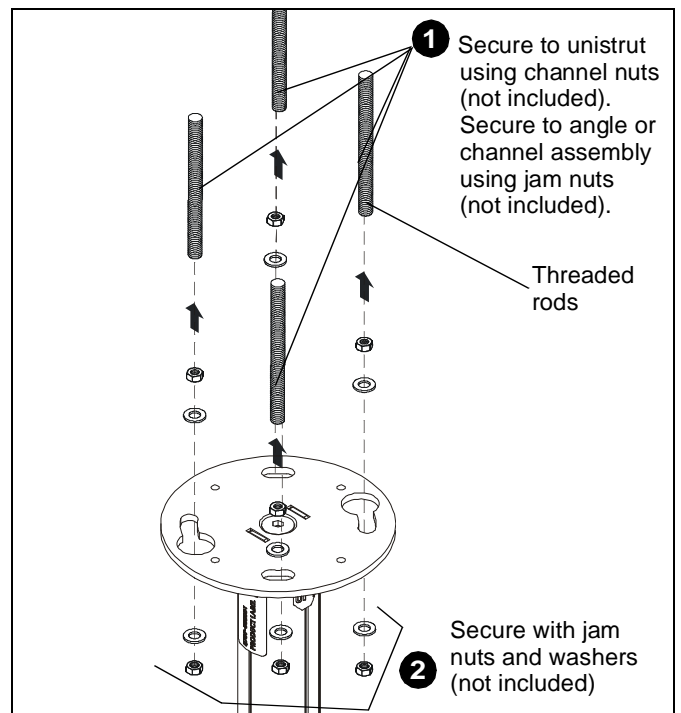

Figure 7
- Secure the threaded rods to the CPA mount with 3/8" jam nuts (not included) and washers (one of each on inside and one of each on outside-not provided). (See Figure 7)